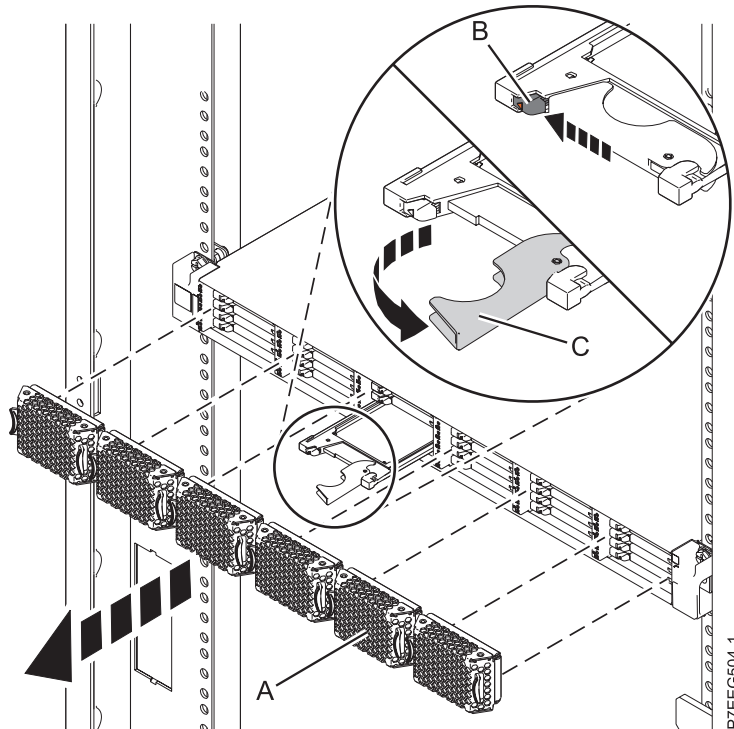

Figure 21. Removing the solid-state drive from the ED/R1 PCIe storage enclosure
1. Pull off the bezel (A) that covers the slot that contains the solid-state drive. See Figure 21 on page 35.
2. Slide the release latch (B) over gently to unlock the drive handle.
3. Grasp the handle (C) and pull the drive partially out of the slot.